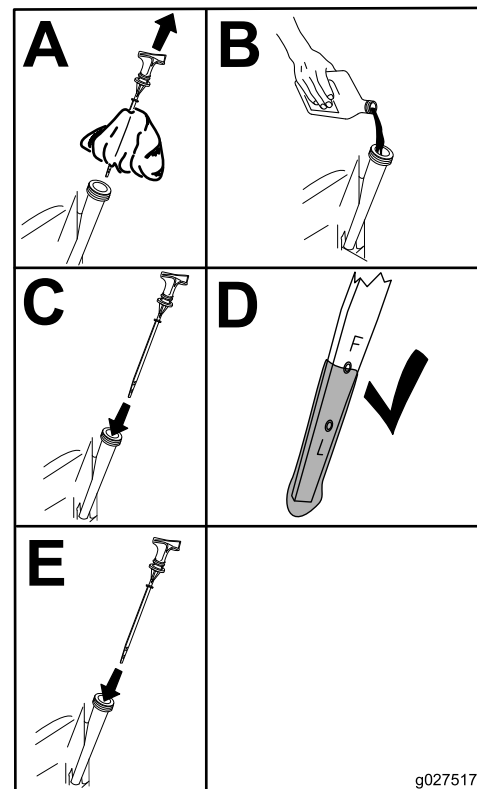

Figure 39
6. Slowly pour approximately 80% of the specified oil into the filler tube (Figure 39).